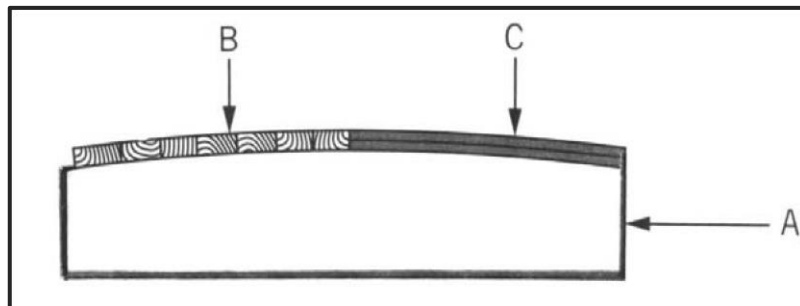

FIGURE 3.1
3.1 **FIGURE 3.1** below shows a pictorial view of closed laggings. Study the picture and answer the questions that follow.
3.1.2 Explain ONE use of **B** if it is used in a closed position, as shown in **FIGURE 3.1**.